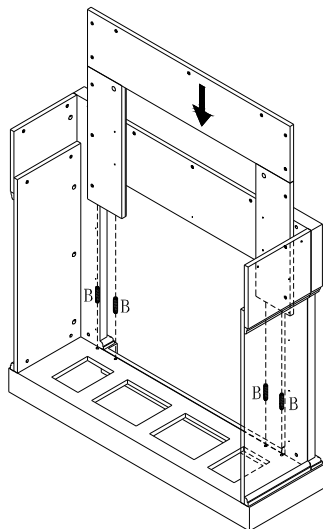

Figure 5
AFTER FINISHED FIGURE 5, INSERT (I) WOOD SCREW INTO THE RELATED HOLES TO LOCK THE PANEL TIGHTLY.